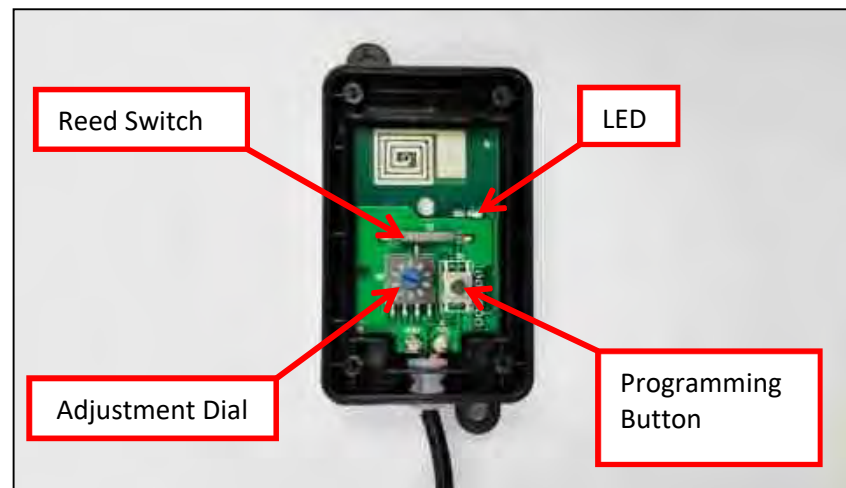

Fig.4
- 1) Set the Motion Sensor Adjustment Dial to 0. (See Fig.4).
- 4) Press the programming button on the GC779G Motion sensor ONCE (See Fig.4). The GC1146C will bleep several times to indicate that the program has been accepted.